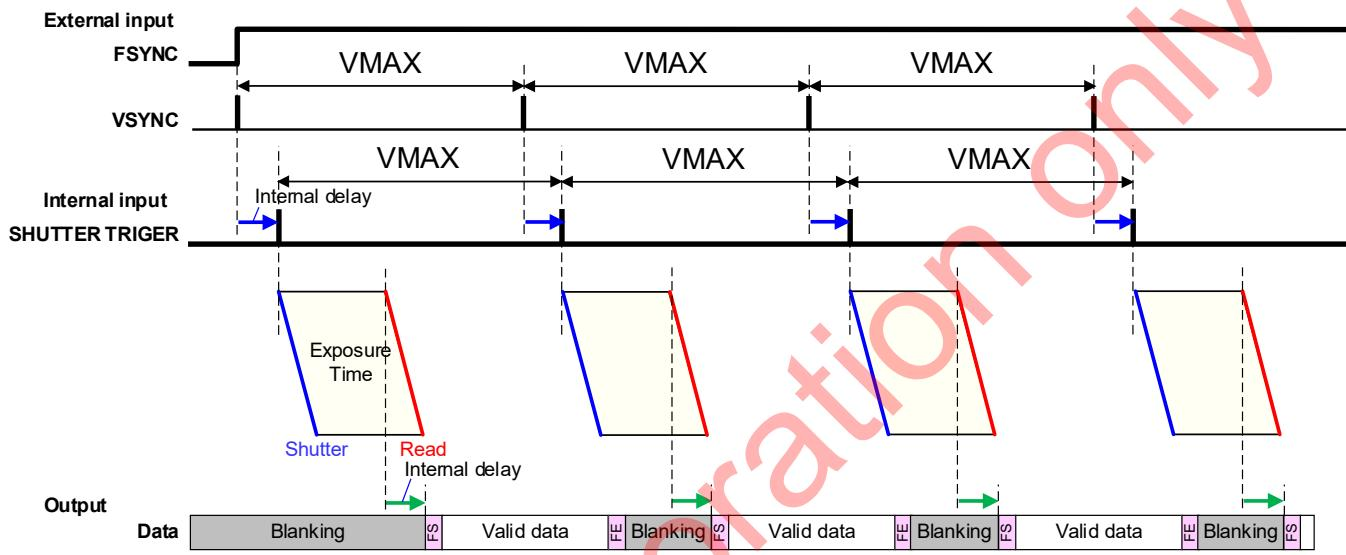

Figure 6-6 Shutter Trigger-Based Sync with the Level Detection Auto Mode Enabled
In level detection auto mode, the sensor operates autonomously while the host continues to send the polarity level signal that makes the external sync signal active, via the FSYNC pin. As illustrated in “Figure 6-6,” while the sensor operates autonomously, the sensor produces image output in sync with the frame rate which has been set for the sensor. “Figure 6-6” illustrates an example in which the polarity of the external sync signal is active high.
- The VSYNC signal in “Figure 6-6” is a virtual timing signal, indicating that the assumed time when the sensor begins exposure coincides with the sensor’s internal synchronization.